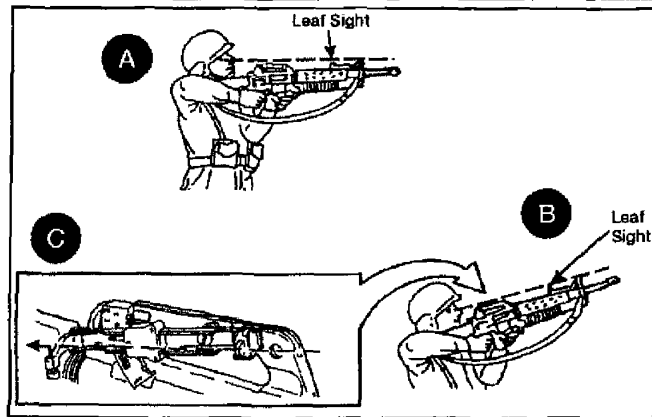

Figure 071-311-2130-2. Firing techniques
a. For short-range targets at 50 meters or less, place the leaf sight down and use the rifle sights (A, figure 071-311-2130-2).